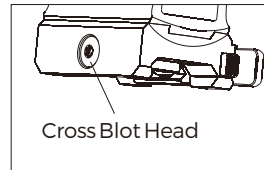

Fig6-2
1) There is one Torx socket at the end of clamp adjusting bolt on the side of the mount. (See Fig 6-2) Before installation, loosen the screw to release clamp using included Torx wrench, and then;